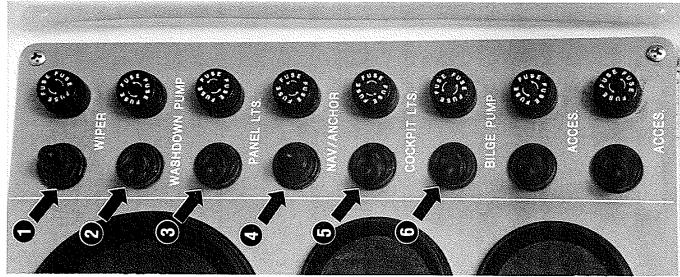

Figure 3
**The Accessory Switch Panel.** See figure 3.